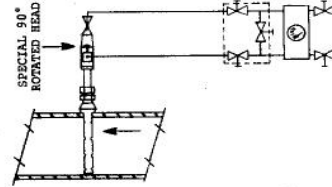

FIGURE 1.2 STEAM, LIQUID, GAS
- 1.2.3.2 An installation in a vertical pipe should only be performed when a horizontal line location is not available. This installation should be as in Figure 1.2. A special "rotated head" Accutube is normally used. This permits side port connection, allowing installation similar to Figure 1.2.